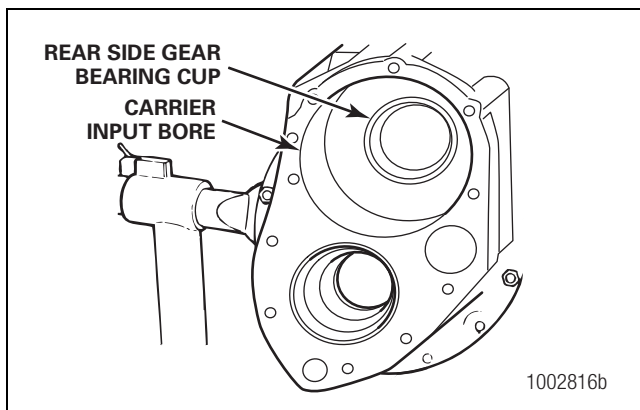

Figure 5.76
12. If removed, install the bearing cup for the rear side gear into the differential carrier. Use a press and a sleeve to install the cup into the carrier. If a press is not available, use a sleeve or a long, brass drift and a hammer to install the cup. The cup is correctly installed when the bottom of the cup is seated against the bottom of the bore. Figure 5.76.